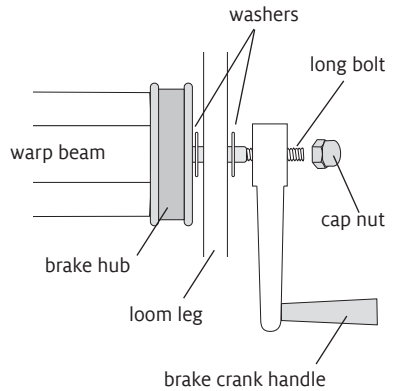

FIGURE 3
**1.** Place a washer on the long bolt on the brake side as well as on the pin on the other end of the warp beam. First insert the brake hub end of the warp beam into the right inside loom leg. Spread apart the loom legs and insert the pin end of the beam into the other inside loom leg. Make sure there is a washer between the beam and leg on both ends. (See figure 3 for hub side beam installation.)